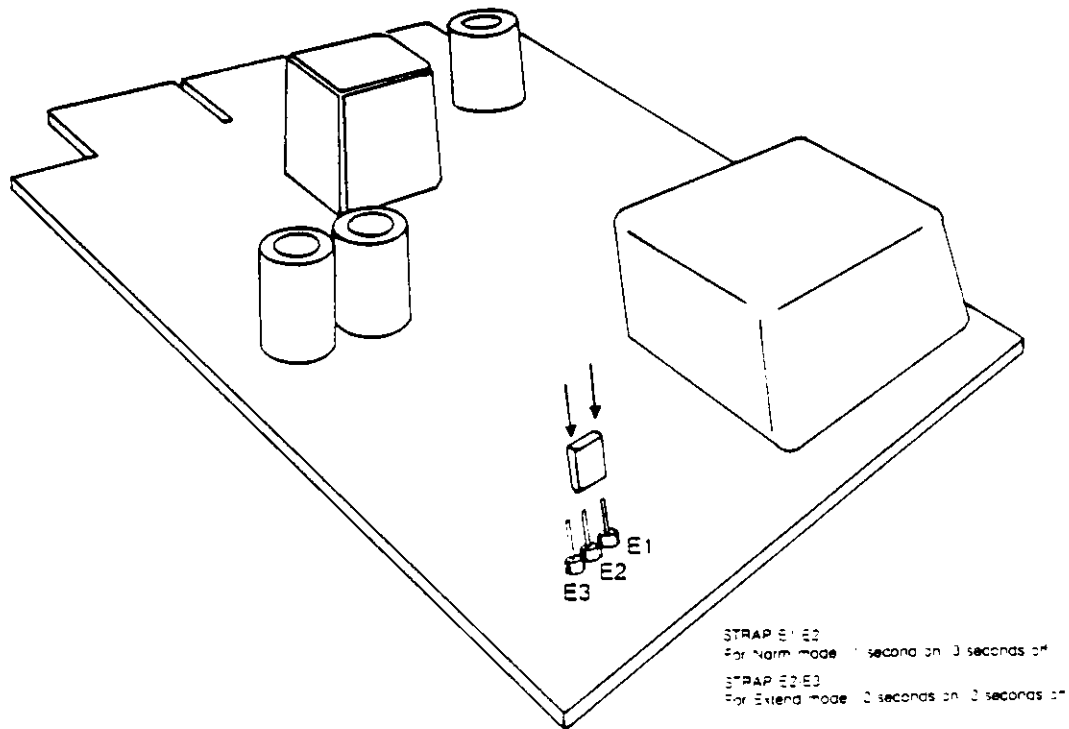

Figure 10 B-OPX-A PCB WITH STRAP OPTIONS
4.12 The B-OPX-A PCB serves one On-Premises extension. It must be strapped for the desired ring mode. Strap E1 and E2 to provide the Normal ring mode (1 second on, 3 seconds off). Strap E2 and E3 to provide the Extend ring mode (2 seconds on, 2 seconds off). Figure 10. An OPX with a longer loop may require the Extend strapping to ensure proper ring detection.